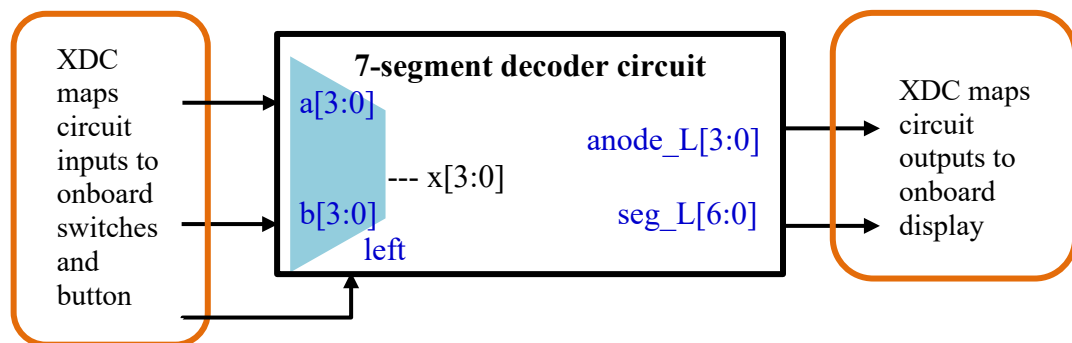

Figure 6: Multiplexer selectively displays left or right digit
- 5.5.2 Open *vsevenseg.v* to edit the **design**. The new circuit will have two 4-bit inputs: a and b. The input "left" will make the left digit light up instead of the right digit. Figure 6 shows how a multiplexer can be used to selectively display the digit.